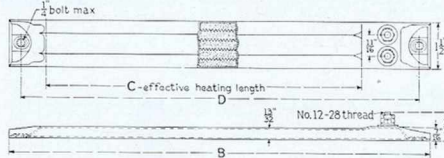

Fig. 1
* Dimensions shown in Fig. 1, 2, and 3 apply to steel-sheath heaters. The porcelain-enameled heaters have a width of 1 1/16 in., thickness 1 1/2 in., height over terminals 1 1/2 in., height under terminals 1/2 in. Use 3/16 in. bolt max.